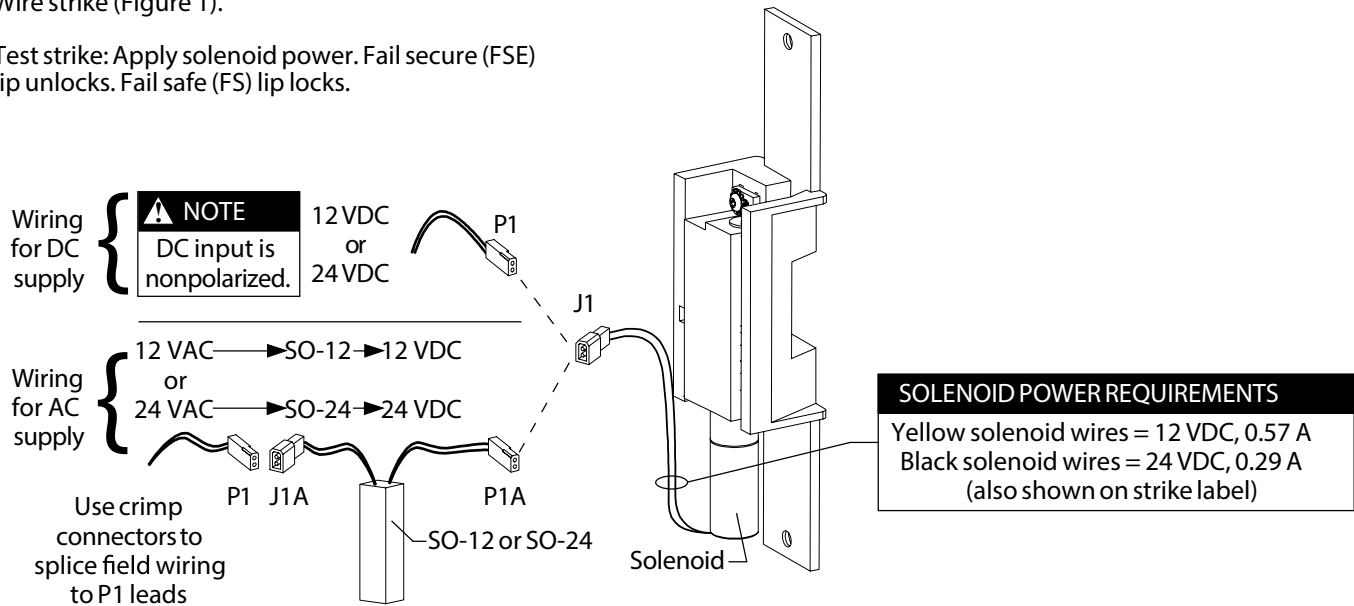
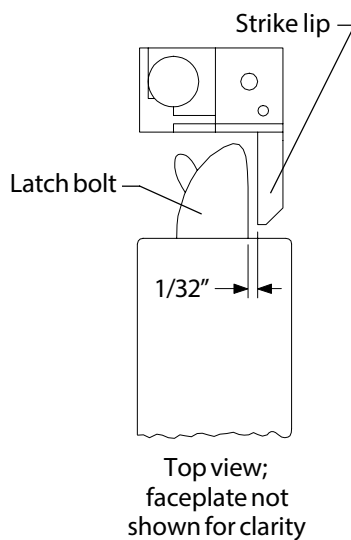

Figure 1
Figure 2
3. Wire strike (Figure 1).
4. Test strike: Apply solenoid power. Fail secure (FSE) lip unlocks. Fail safe (FS) lip locks.
5. Install strike with two #12-24 screws. Make sure clearance between latch bolt and strike lip is  $1/32"$  (Figure 2). If not, uninstall strike, adjust (Figure 3), and reinstall.